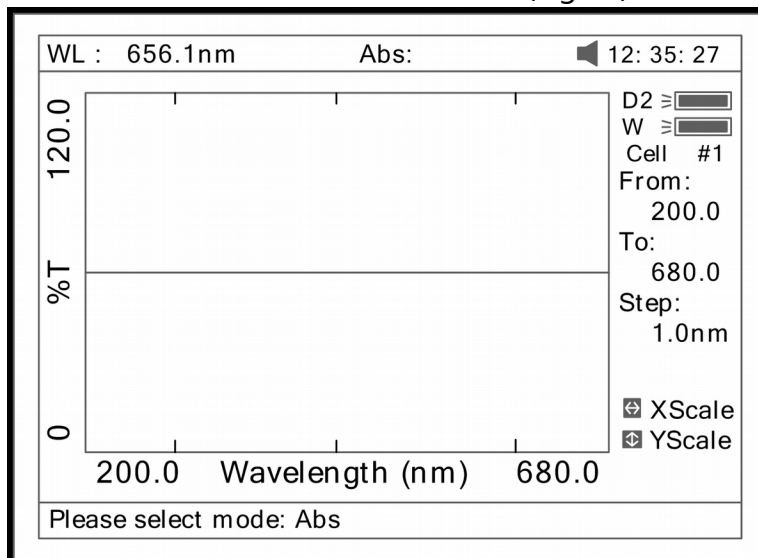

Fig 43
2. Press **(F2)** to select the test mode, "Abs", "%T" or "E" (Fig 43).